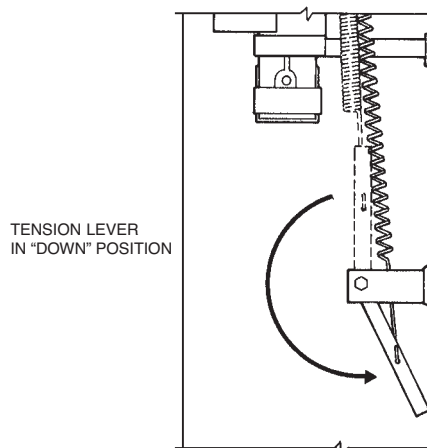

FIGURE 17
- ▶ 25. Lower tension lever to "DOWN" position. See Figure 17.